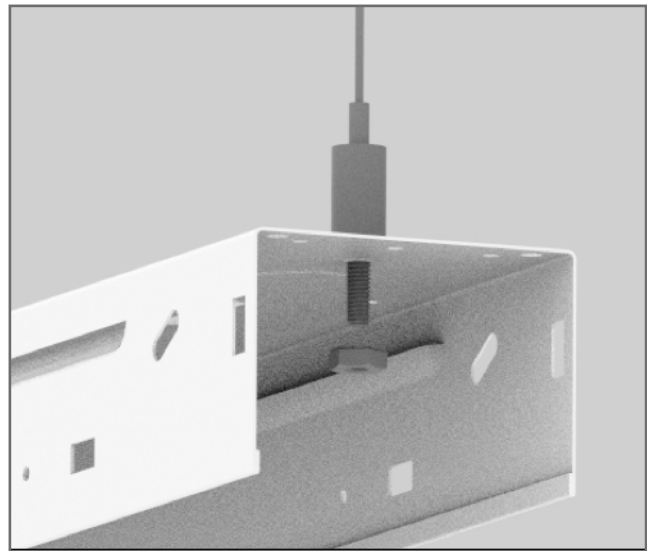

FIGURE 7
4. Insert the threaded end of the cable bushing into the knockout and fasten in place with the hex nut, as shown in Figure 7.